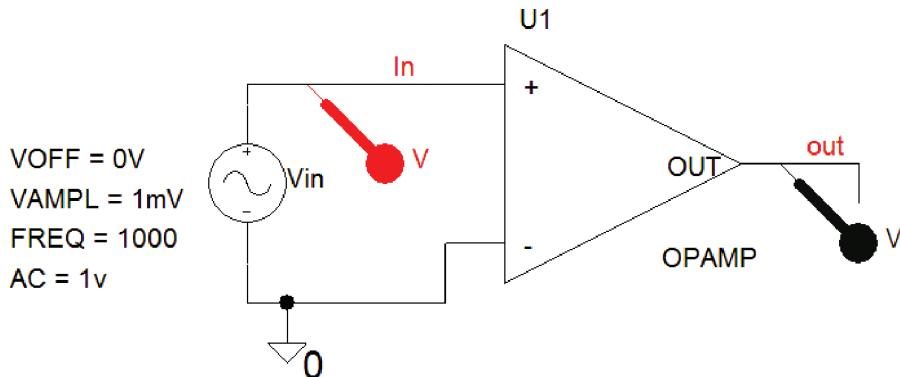

FIGURE 8.31: Noninverting op amp
- (3) Investigate the opamp open-loop gain characteristics using the schematic shown in Fig. 8.31.